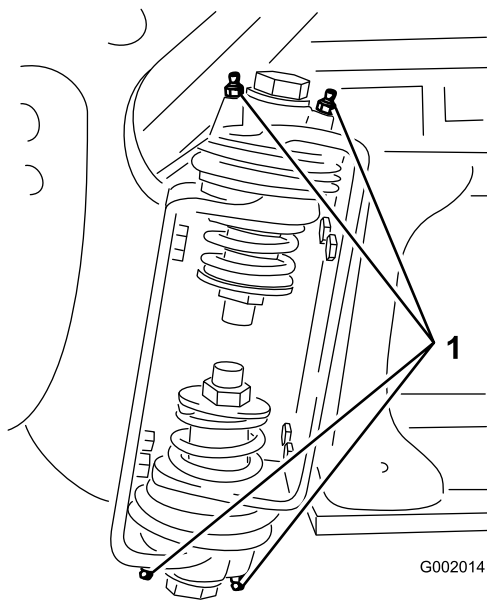

Figure 61
2. Pump grease into the bearing or bushing at each fitting (Figure 61).